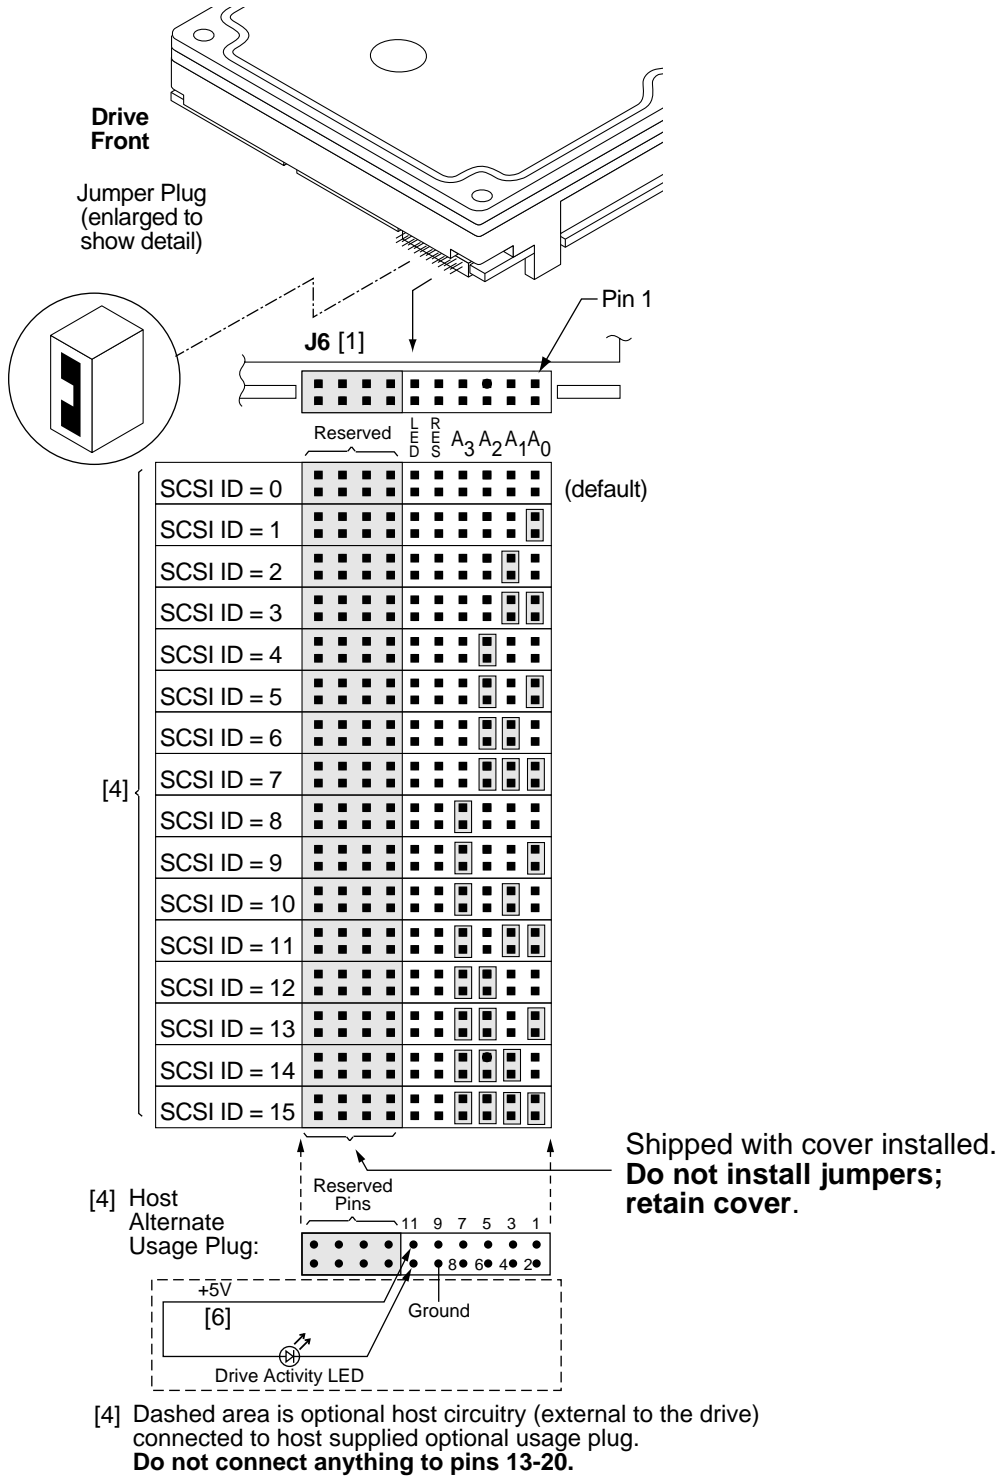
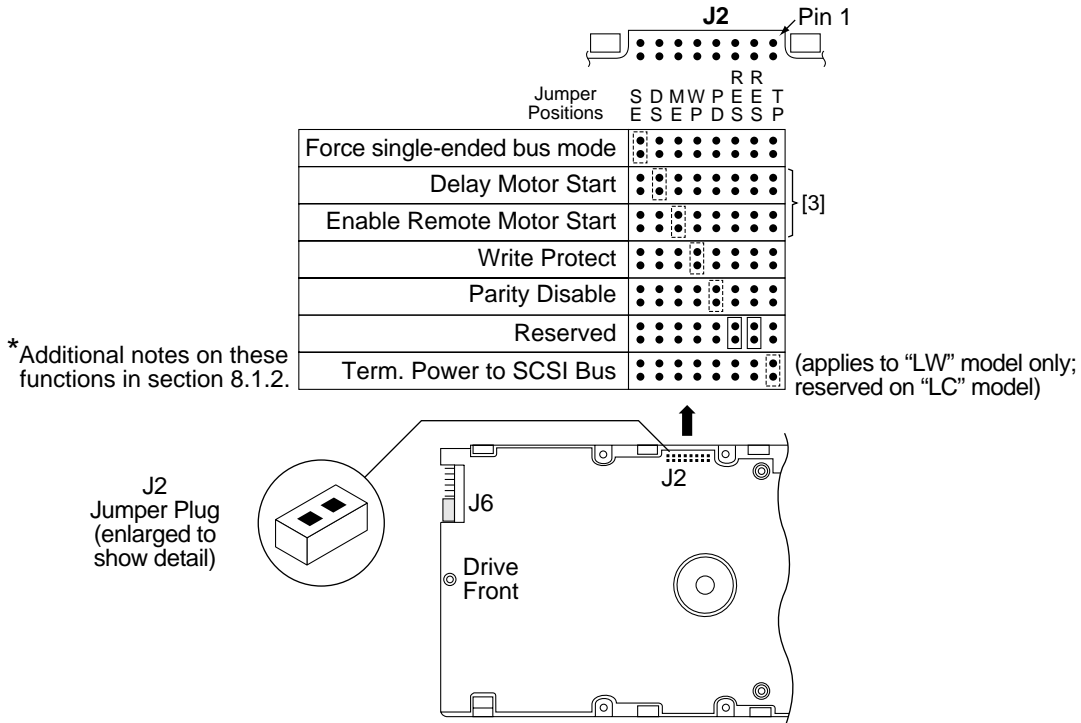

Figure 11. J6 jumper header
Figure 13. J2 option select header
For option jumper locations and definitions refer to Figures 11, 12, and 13. Drive default mode parameters are not normally needed for installation. Refer to Section 9.3.2 for default mode parameters if they are needed.
Figures 11 and 12 show views of the drive ID select jumper connectors. Figure 13 shows the option select jumper connector for all models. Figure 11 shows the drive's J5-auxiliary jumper connector. Both J5-auxiliary and J6 have pins for selecting drive ID and for connecting the remote LED cable. Only one or the other should be used, although using both at the same time would not damage the drive. The notes following the figures describe the functions of the various jumper positions on the connectors J2, J5-Auxiliary and J6. Suggested part number for the jumpers used on J2 is Molex 52747-0211 (Seagate part number 77679052). A bag with the two jumper plug types is shipped with the standard OEM drives.
8.1.1 Notes for Figures 11, 12, and 13.